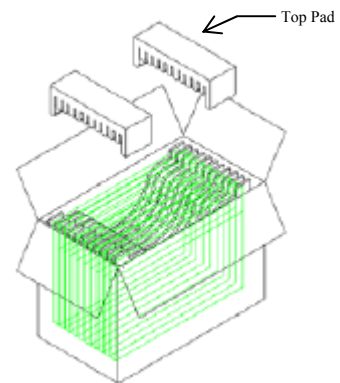

Fig 3
Step 3 Cover them with 2pcs top pad then to seal discount as fig3.